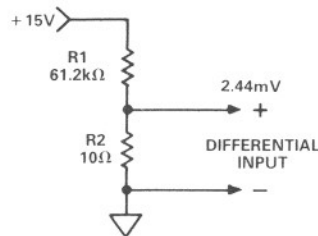

Figure 4. Input Connection for the  $R_{RTO}$  Calibration
1. Connect the inputs to a 2.44mV supply, as in Figure 4.